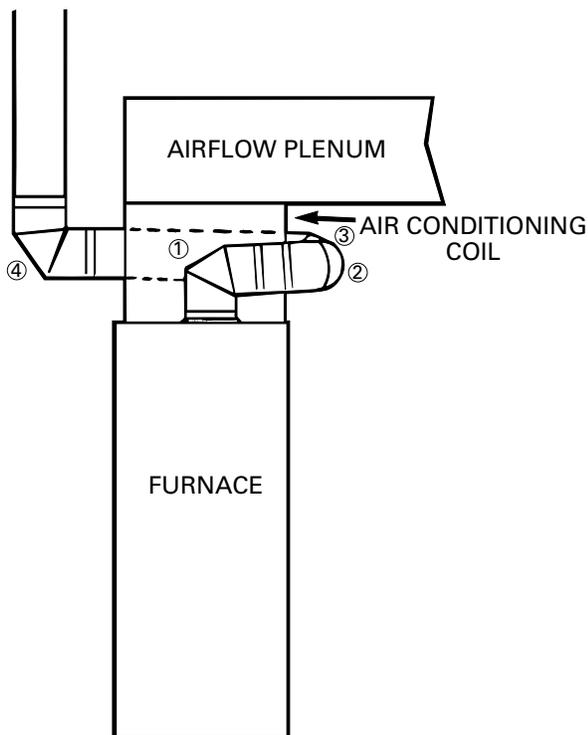

Figure 5
Two good rules to follow when designing and installing vent systems are: **(1) avoid an excessive number of turns and bends (Figure 5) and (2) maximize rise; minimize run.**